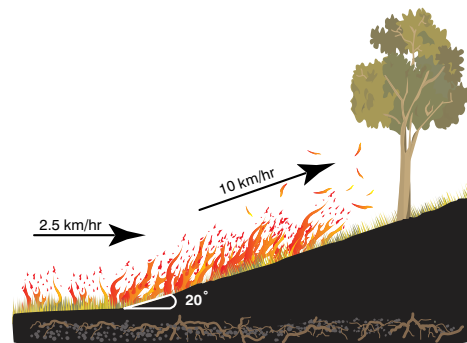

Figure 5 – the effect of upslope
*For example (see Figure 5): a fire is travelling at 2.5 km per hour on level ground towards a 20° upslope; it reaches the foot of the hill and continues to burn in the same direction; as it moves up the slope, the rate of spread will increase to 10 km per hour (approximately).*